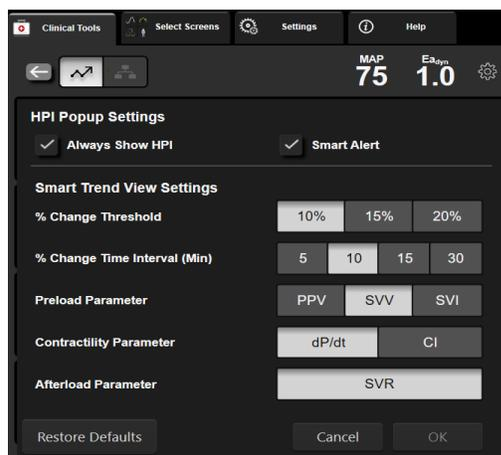

Figure 14-9 HPI secondary screen – smart trend view settings
- 3 Disable the **Always Display HPI** option button. See figure 14-9 on page 261.